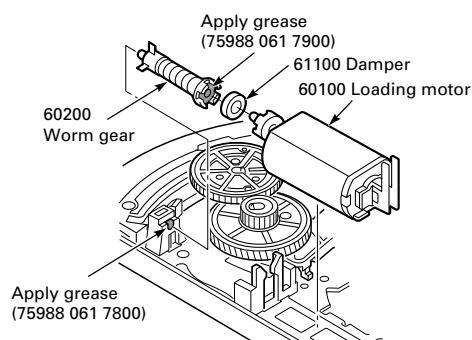

Fig. 8.14
- For assembly please note Fig. 8.14.